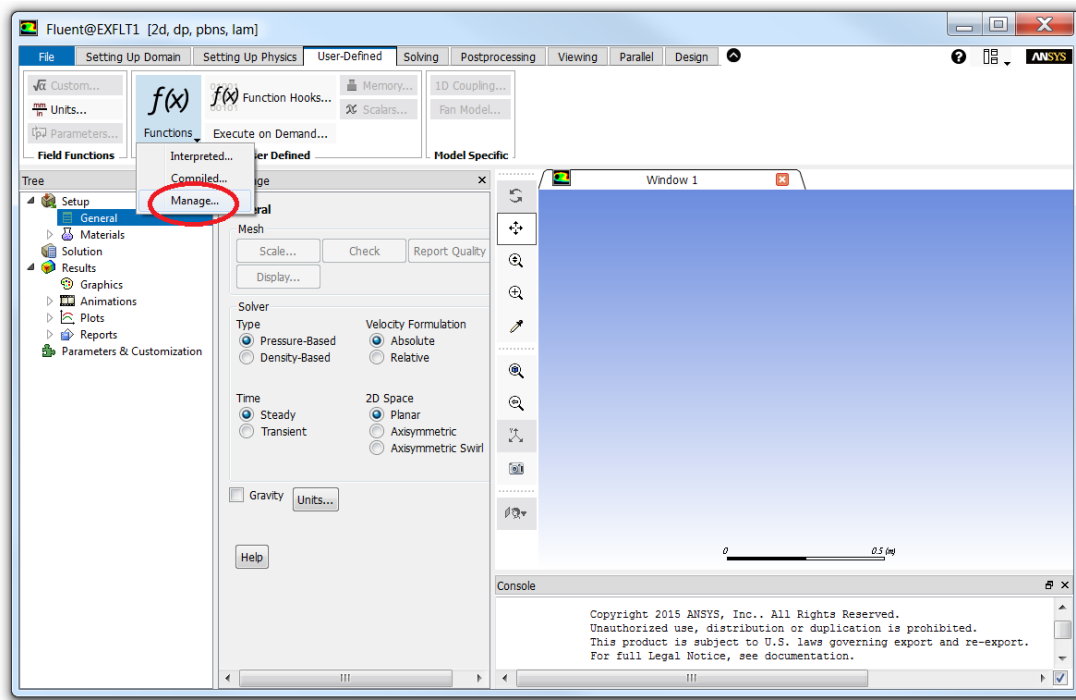
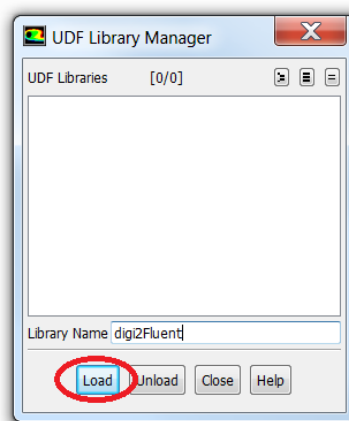

Figure I.5.11: Library manager opening (ANSYS Fluent 17.0)
Figure I.5.12: Digimat-CAE/ANSYS Fluent interface dynamic library loading
3. The Digimat-CAE/ANSYS Fluent interface dynamic library must be loaded into ANSYS Fluent. Access the UDF Library Manager (see figure I.5.11) and **Load** the library using the copied folder name, e.g. "digi2Fluent" if renamed as in the previous operation (see figure I.5.12).